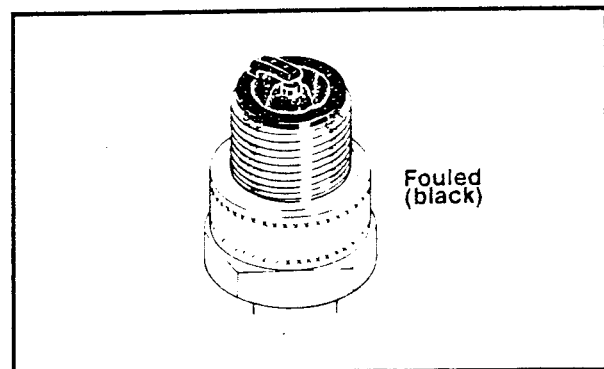

Figure 4-18. Fouled Plug
- See Figure 4-18. A black insulator tip indicates fouling caused by: